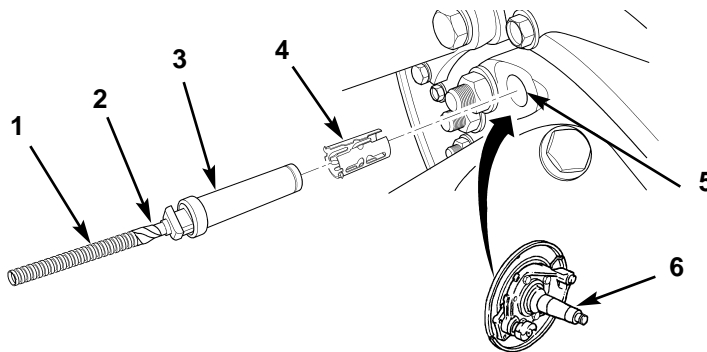

Figure 2. Removing Wheel Sensor from Front Axle.
2. Remove all tie straps from wheel sensor cable (figure 2, item 2). Discard tie straps.
3. While holding end of wheel sensor (figure 2, item 3), remove wheel sensor (figure 2, item 3) from clamp sleeve (figure 2, item 4). If replacing wheel sensor (figure 2, item 3), remove split loom (figure 2, item 1) from wheel sensor cable (figure 2, item 2).
4. Remove clamp sleeve (figure 2, item 4) from hole (figure 2, item 5) in front spindle and brake spider (figure 2, item 6).